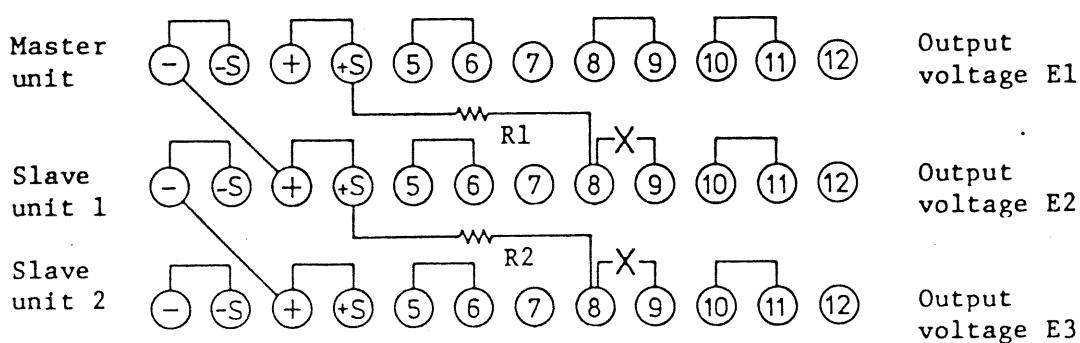

Figure 4-14
2. Disconnect the jumper from between terminals ⑧ and ⑨ of each slave unit.
3. Connect external resistor as shown in Figure 4-14.
4. Connect in series the rear output terminals as shown in Figure 4-14. (Use wires of sufficient current rating.)